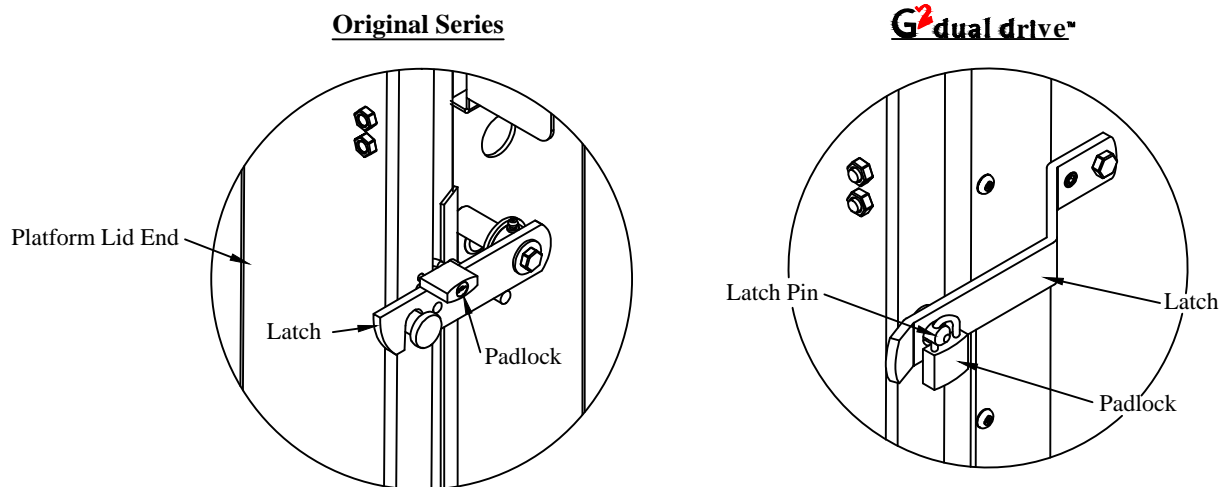

Figure 21: Padlock location.
9. **Lock** the padlock through the hole in the platform or latch pin (Figure 21).